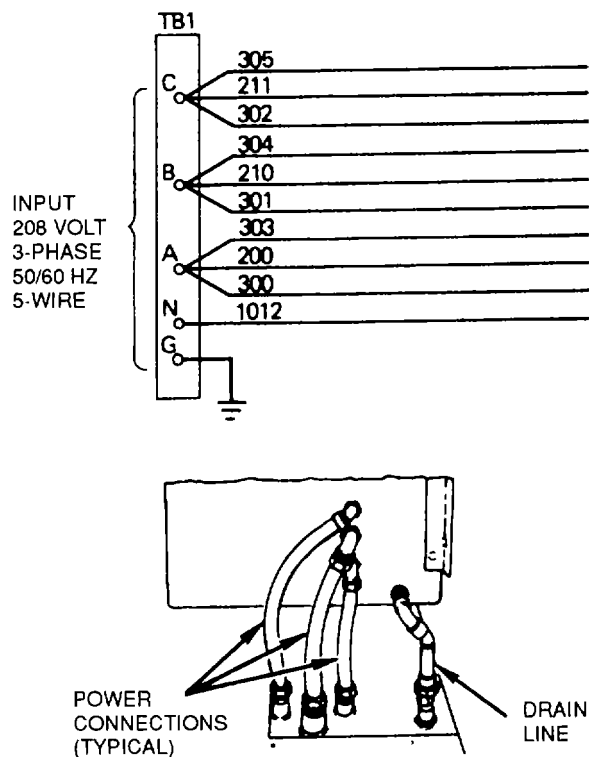

Figure 4-6. Electrical Connections
- b. Using No. 12 AWG wires and applicable grommets, route wires from power source through 1-inch hole located at the bottom on the right side of the air conditioner. Connect the wires to terminals within the control box assembly. Connect wires as shown in fig 4-6.